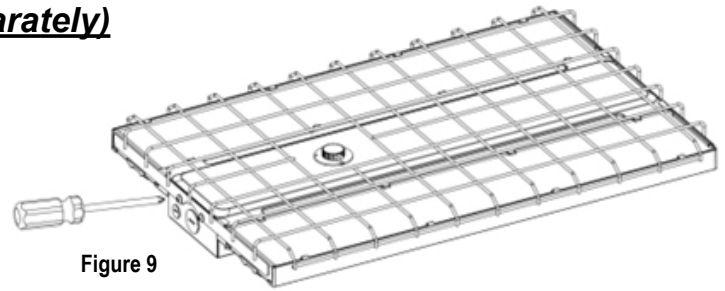

Figure 9
1. Place the wire guard on the lamp side of the fixture and secure with provided screws. (See Fig. 9)